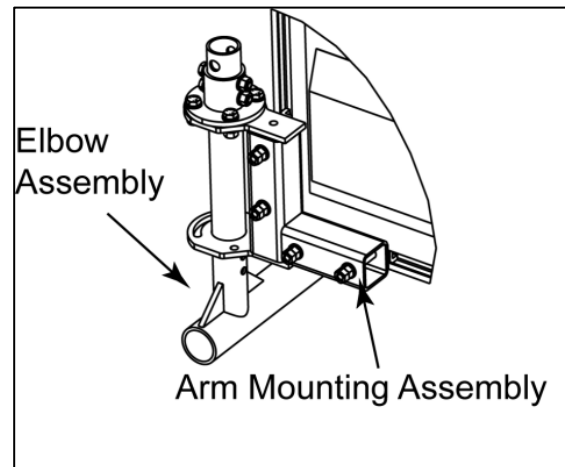

Figure 26: Elbow Assembly on the Display
6. Mount the elbow assembly to the back of the display by sliding the mounting bolts through the arm mounting assembly. Refer to **Figure 26**.